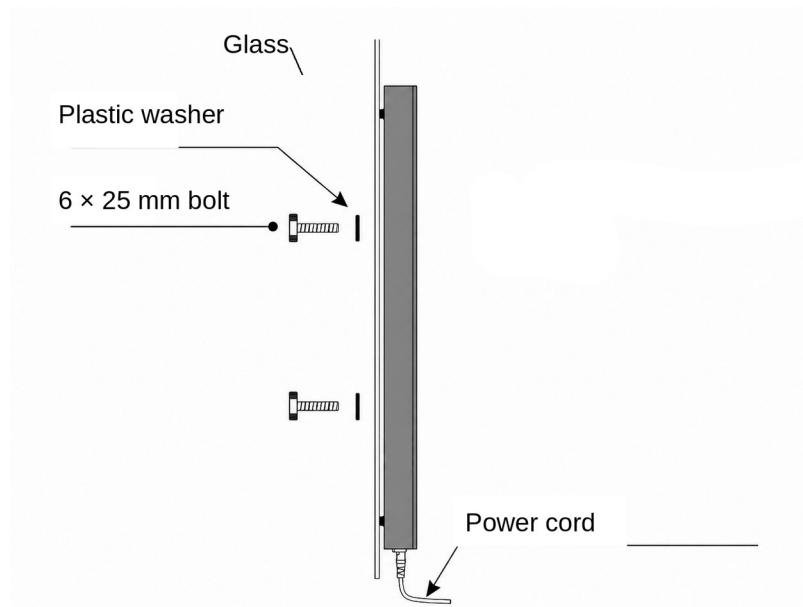

Figure 18. Side view of a red light therapy panel bolted through the glass with a plastic washer under each bolt head and the power cord at the bottom.
- Slide one plastic washer onto each of the (8) 6 × 25 mm bolts. The washers are bagged with the bolts.
- With your helper holding the first red light therapy panel in place inside the sauna, pass a bolt through one of the holes in the glass (Figure 18).